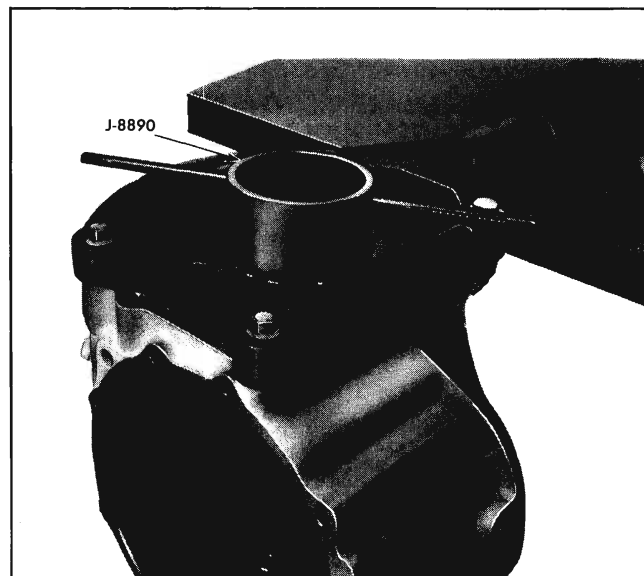

Fig. 4-28 Tool Positioned to Remove Front Pinion Bearing Adjusting Nut
9. Remove front pinion bearing adjusting nut using J-8890 (Fig. 4-28).